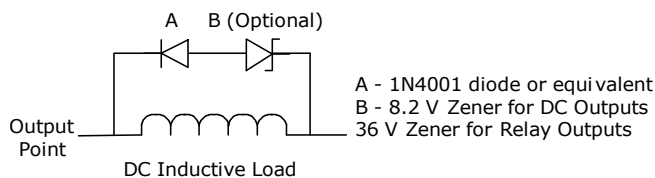

Figure 3-2 Suppression Circuit for a DC Load
Figure 3-2 shows a sample suppression circuit for a DC load. In most applications, the addition of a diode (A) across the inductive load is suitable, but if your application requires faster turn-off times, then the addition of a Zener diode (B) is recommended. Be sure to size your Zener diode properly for the amount of current in your output circuit.